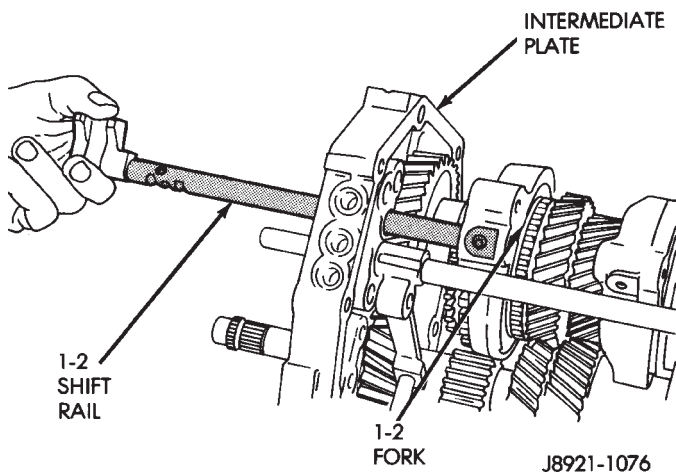

Fig. 74 Remove 1-2 Shift Rail
(26) Remove the 1-2 shift rail from the 1-2 shift fork and the intermediate plate (Fig. 74).